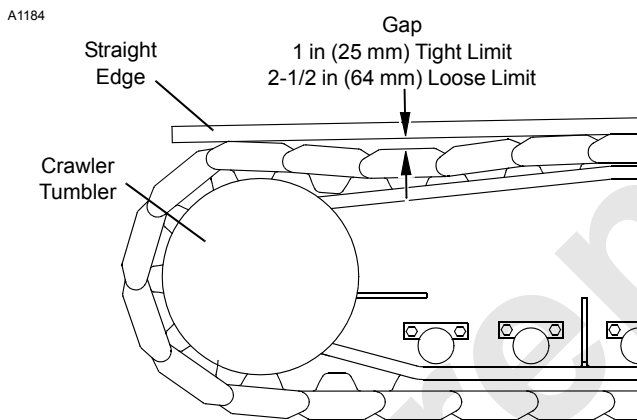

FIGURE 8-2
2. Place straight edge on treads as shown in Figure 8-2. Gap between straight edge and top of treads at lowest point should be 1 in (25 mm) (tight limit) to 2-1/2 in (64 mm) (loose limit).